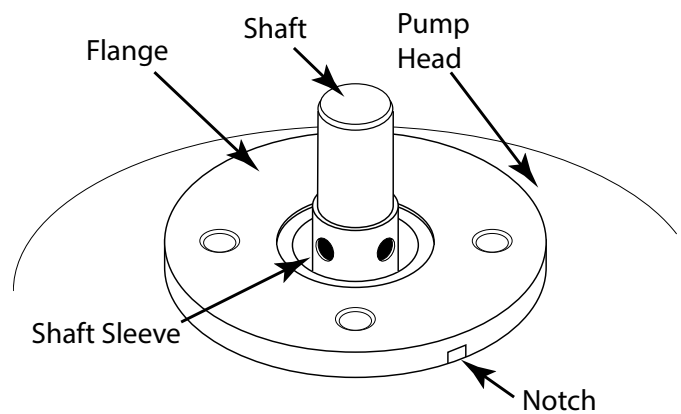

Figure 9
3. Remove the four retaining bolts (69) that hold down the seal flange and seal.
5. Using the three round holes on the top of the shaft sleeve, or notch in flange (see Figure 9), remove the remaining portions of the seal.